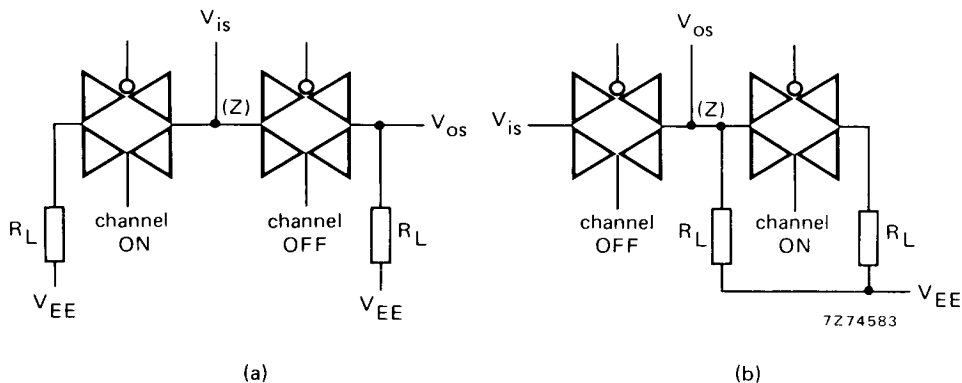

Fig. 10.
- $R_L = 1\text{ k}\Omega$ ;  $V_{is} = \frac{1}{2} V_{DD(p-p)}$  (sine-wave, symmetrical about  $\frac{1}{2} V_{DD}$ );  $20 \log \frac{V_{os}}{V_{is}} = -50\text{ dB}$ ; see Fig. 10.